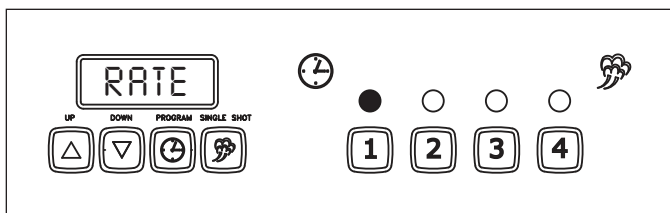

Figure 5. RATE Mode on Menu 1
RATE (Shot Interval Time) is the time set between each shot of steam during a complete cycle (Figure 5).
6. While in Program mode (press the **PROGRAM** button if not in this mode), press both the **UP** and **DOWN ARROW** buttons simultaneously. “RATE” will appear in the display for a moment (Figure 5).